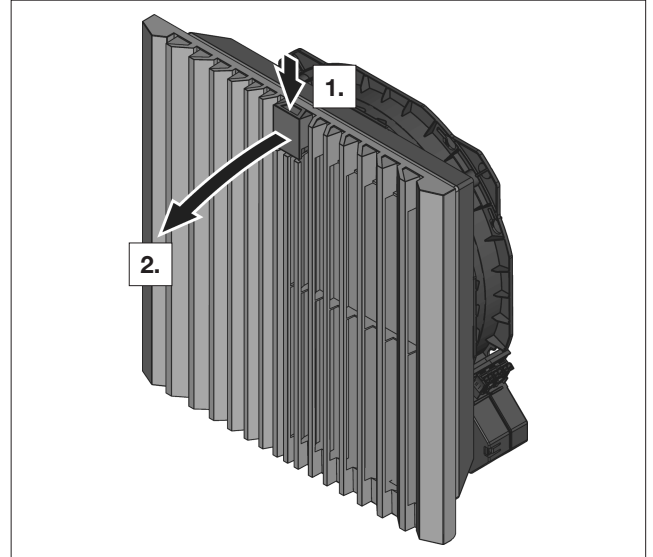

Fig. 17: Unlocking the louvred grille
- To unlock the louvred grille, press the function logo from above (see fig. 17).